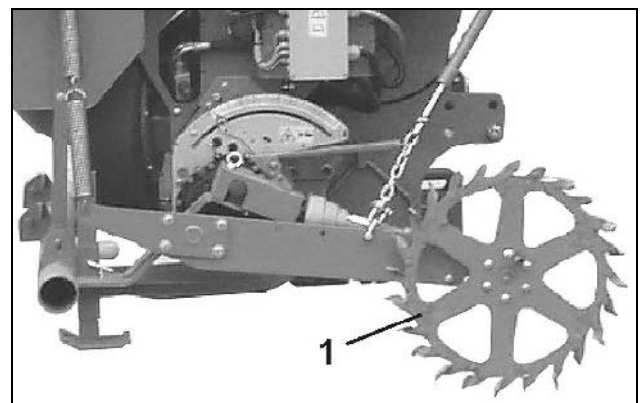

Fig. 25
- Via the Vario gearbox the star wheel (Fig. 25/1) drives the metering rollers in the seed metering system (not with the full electric metering system).